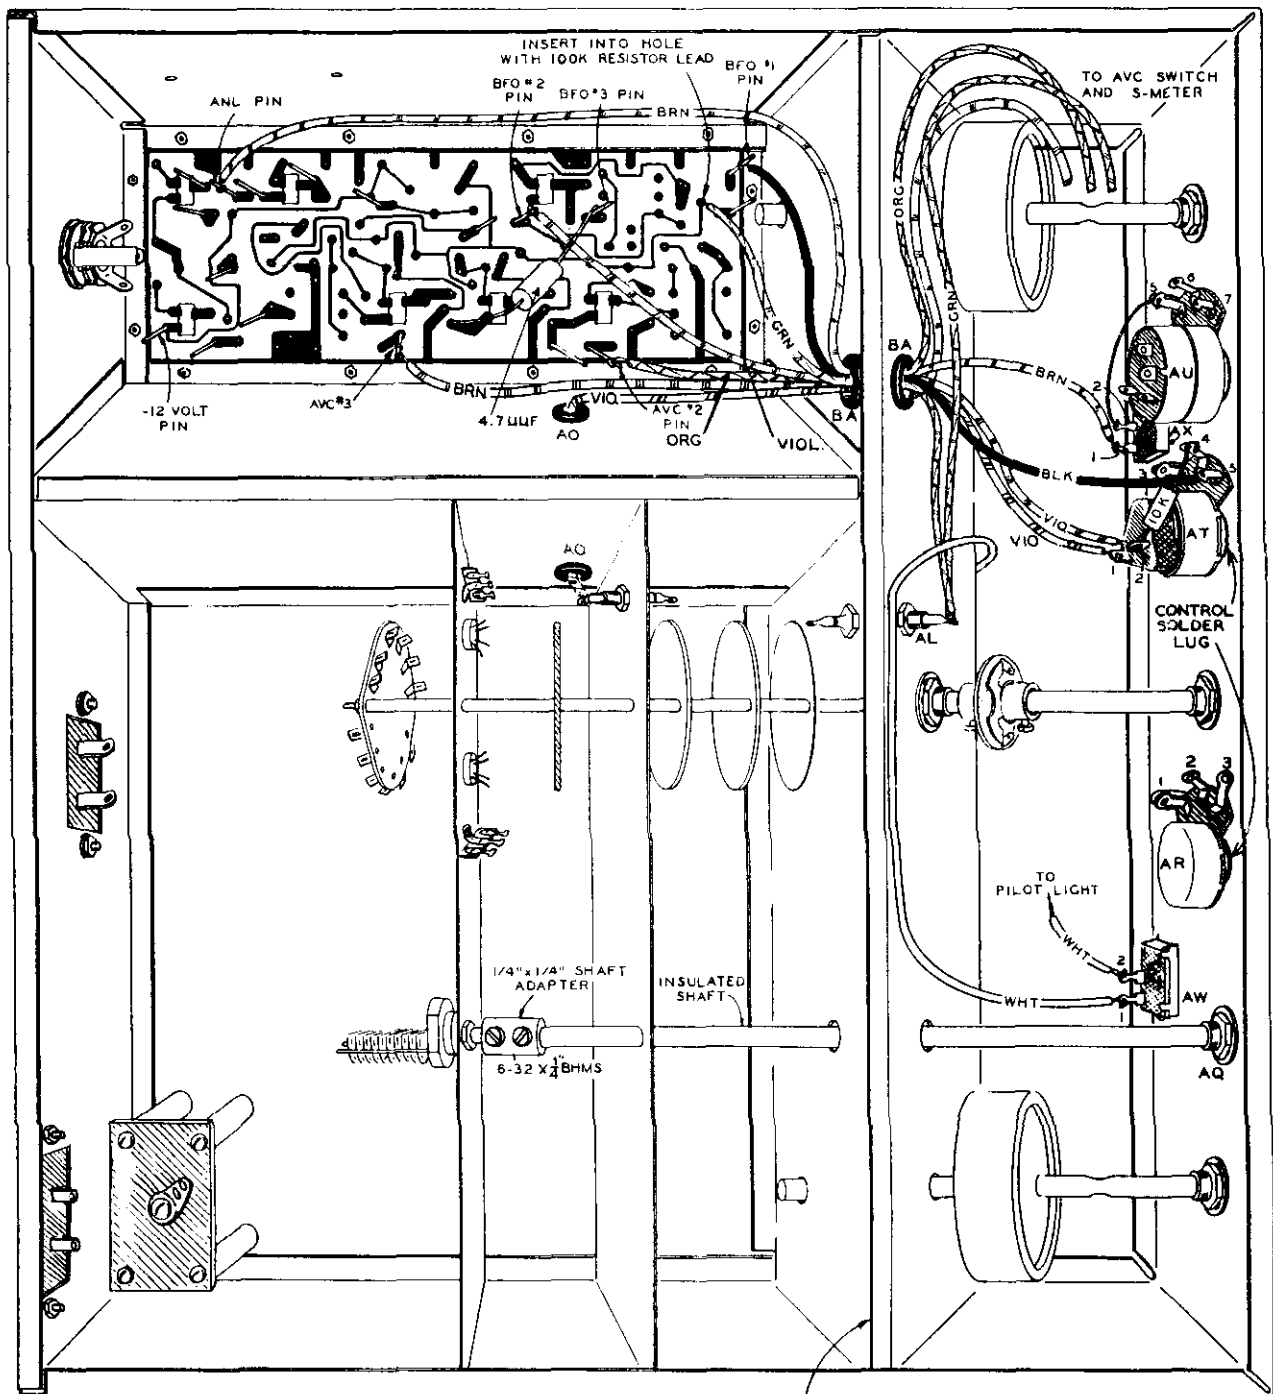

Figure 22
- (✓) Mount the phone jack AF. Insert the phone jack with a control lockwasher on the bushing, through the chassis from the inside. Secure with a 3/8" control nut. See Figure 22.
(✓) See Figure 22 and start two 6-32 x 1/4" BHMS into the 1/4" x 1/4" rigid shaft coupling. Place a shaft adaptor on the antenna tuning capacitor. Slide the 1/4" x 1/4" shaft coupling on the antenna capacitor shaft and tighten.
(✓) Locate the 1/4" to 1/4" flexible coupler and slide the coupler onto the band switch shaft until the end of the shaft is approximately at the center of the coupler. Secure the two screws holding the coupler to the shaft. See Figure 22.
Refer to Figure 22 for the following steps.
- (N) Cut both leads of a 10 K $\Omega$  resistor (R48, brown-black-orange) to 3/4" in length. Connect one lead to lug 4 of the BFO control AT (S-1). Connect the other lead to lug 2 of the BFO switch AT (NS).
- (N) Connect one end of a 7" length of violet hookup wire to lug 2 of the BFO switch AT (S-2). Run the other end of this wire through grommet BA and connect to the BFO terminal pin 2 (S-1).
- (N) Connect one end of a 5" length of black wire to lug 5 of BFO control AT (S-1). Run the other end through grommet BA and connect to BFO terminal pin 1 (S-1).
- (V) Cut both leads of a 4.7  $\mu$ f capacitor C60 to a 1" length. Connect one lead to BFO terminal pin 3 (S-1). Connect the other end to the #404-40 transfilter terminal that is circuit board connected to the collector of X5 (S-1). See Figures 22 and 24.
- (V) Connect one end of a 3" length of bare wire to lug 2 of ANL switch AX (S-1). Connect the other end of this lead to lug 5 of the VOLUME control AU (NS).
- (V) Bend the control solder lug until it touches lug 5 of AU and solder the two lugs and bare wire.
- (V) Connect one end of a 13" length of brown wire to lug 1 of ANL switch AX (S-1). Run the other end through grommet BA and connect to the ANL terminal pin (S-1). Position wire as shown.
- (V) Connect one end of a 9" length of orange wire to the AVC terminal pin 2 (S-1). Run the other end of this lead through grommet BA and up toward the AVC switch. This end will be connected later.
- (V) Connect one end of a 12" length of brown wire to AVC terminal pin 3 (S-1). Run the other end through grommet BA and up toward the AVC switch and S-meter.